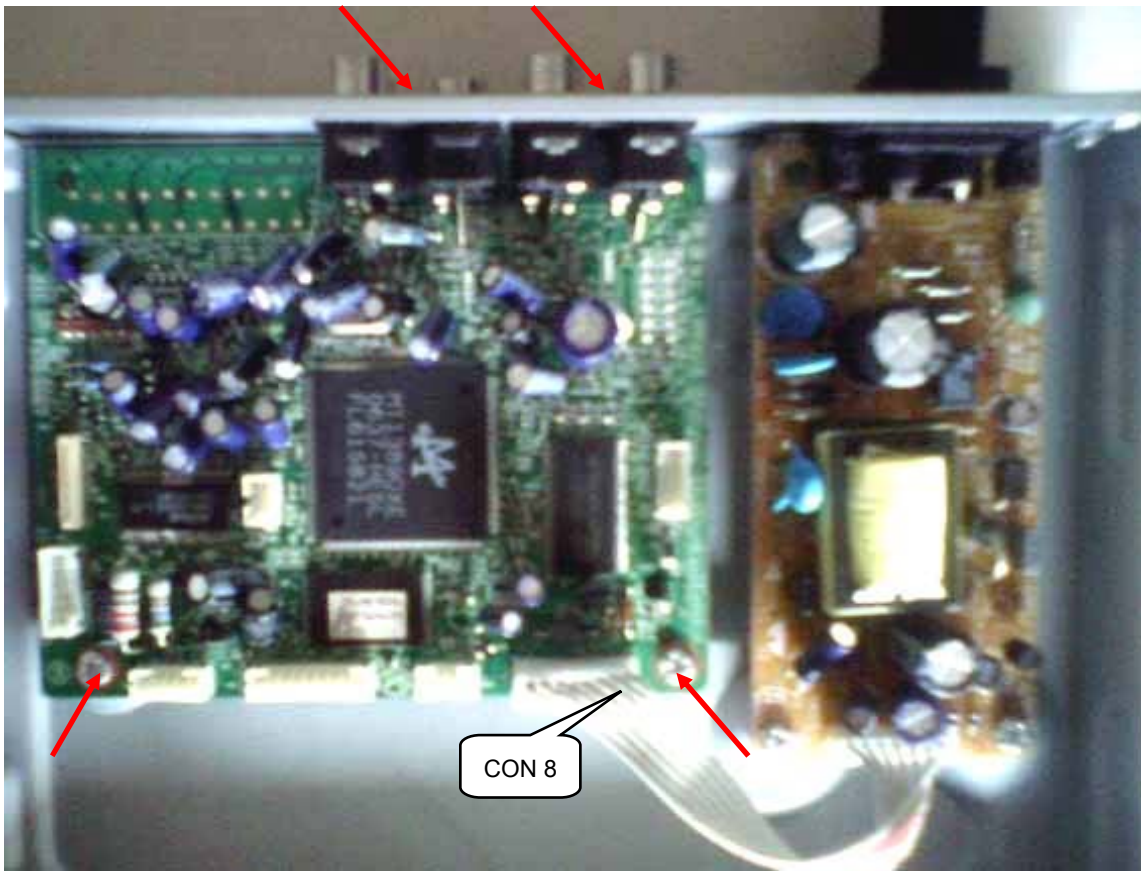

Figure 8
**Step6:** Dismantling Main Board, first disconnect the connector, and then remove 4 screws. (Figure 8)